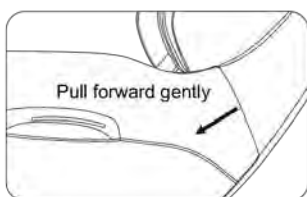

Figure 11
- Gently pull forward the back-end of the armrest to pull out the decoration cover, then lift up the back-end of the armrest to pull out the buckle. (Figure 11)